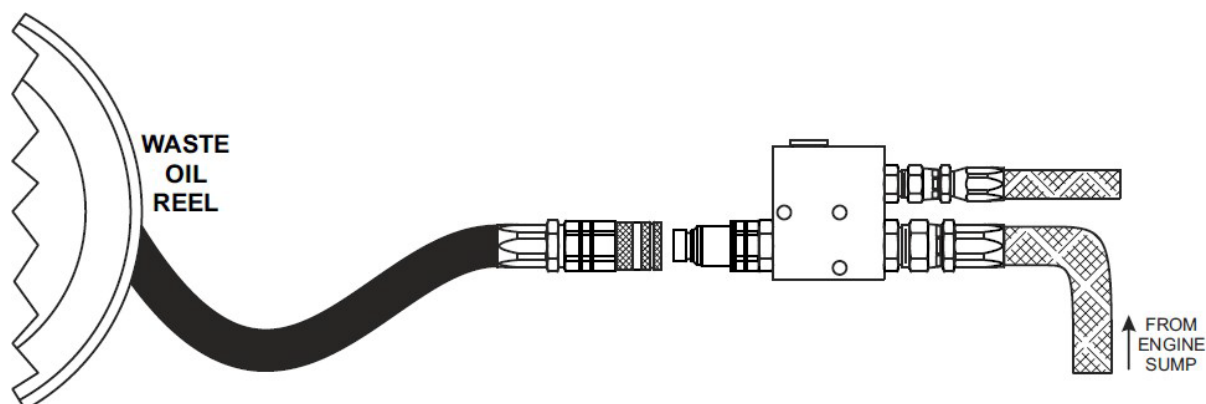

Figure 175. Waste Oil Reel Line
2. Evacuate the oil from the engine sump by attaching the female quick disconnect from the waste oil reel to the male quick disconnect on quick fix valve. Then turn the waste oil pump on to remove oil from the engine sump, remove the waste oil line once all oil is removed from the engine sump (Refer to Figure 175).
3. Disconnect both pressure hoses (Figure 175, Item 6 & 11) and disconnect the suction hose (Figure 175, Item 8) from the pump (Figure 175, Item 4).
4. Remove the four bracket bolts (Figure 175, Item 7) from the pump bracket (Figure 175, Item 5).
5. Remove the pump (Figure 175, Item 4).